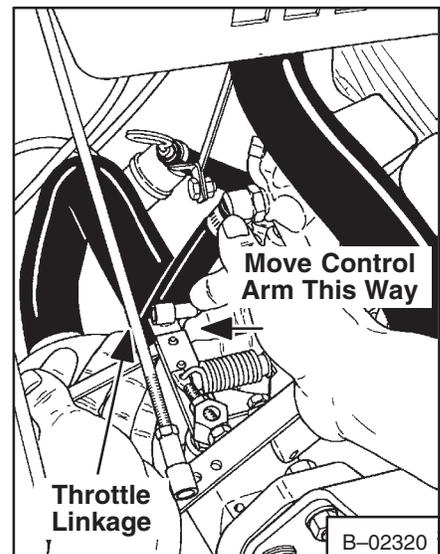

**Fig. 7B-6** Linkage Adjustment
11. Loosen the two screws on the governor control arm (Fig. 7B-8).
12. Move the governor control arm and control arm of the carburetor linkage as shown in (Fig. 7B-8).